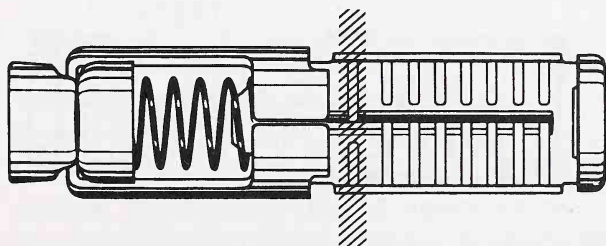

Fig. 10-26. A type 1 keyway.
1. Select either type 1 or type 2 keyway with which to build the system (Fig. 10-26).